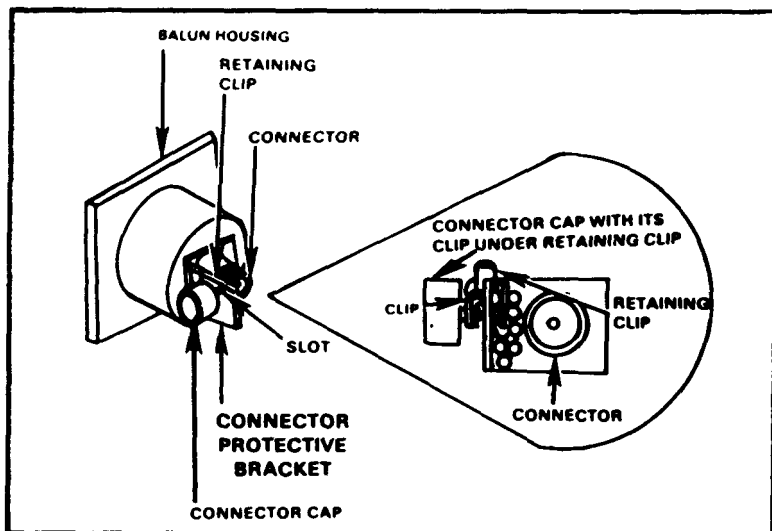
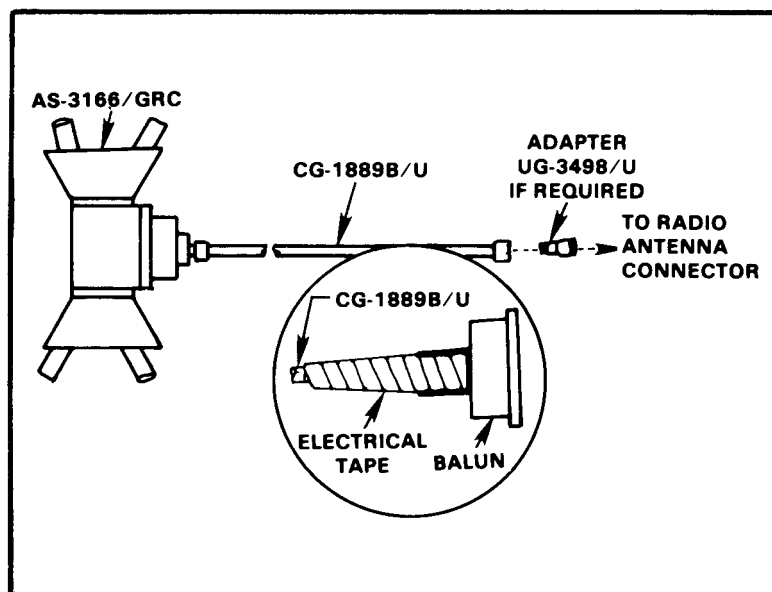
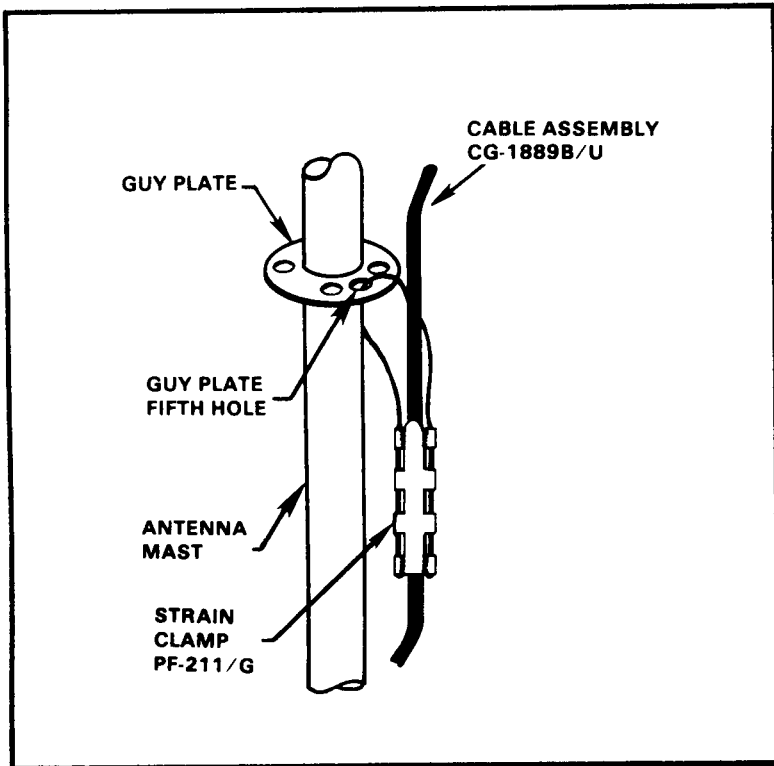

Figure 3-11. Captivating feed cone assembly connector cap.
Figure 3-12. Connections of CG-1889B/U to AS-3166/GRC and radio.
Figure 3-13. Strain clamp closed.
<ol style="list-style-type: none"> <li>Unscrew the connector cap of the feed cone assembly connector and secure the cap to the connector protective bracket (Figure 3-11).</li> <li>Connect the RF Cable CG-1889B/U to the feed cone assembly connector (Figure 3-12).</li> <li>Compress and open the strain relief clamp. Pass the cable of the clamp through the fifth hole of the upper guy plate (Figure 3-13). Secure the cable in the clips of the clamp.</li> <li>Attach the strain relief clamp to the RF cable. Close and release the clamp.</li> <li>Tape the RF cable connection (Figure 3-12) and tape the cable to the insulating extension just below the feed cone assembly. Tape the cable to the mast every 5 feet all the way to the bottom of the mast.</li> </ol>
**NOTE:** For AN/VRC-12 family FM radios with BNC type antenna connectors, use the UG-349B/U adapter on the end of the CG-1886B/U RF cable (Figure 3-12).